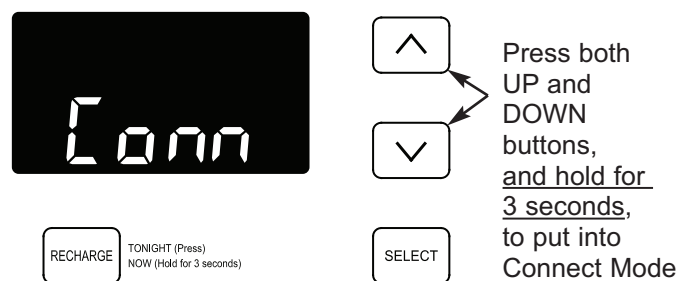

FIG. 33
3. On the water softener's front panel (see Fig. 33), press both the \triangle UP and ∇ DOWN buttons, and hold them for 3 seconds.
4. Release the buttons when “Conn” appears in the display (See Fig. 33) and the connection status light above the control panel begins flashing amber.